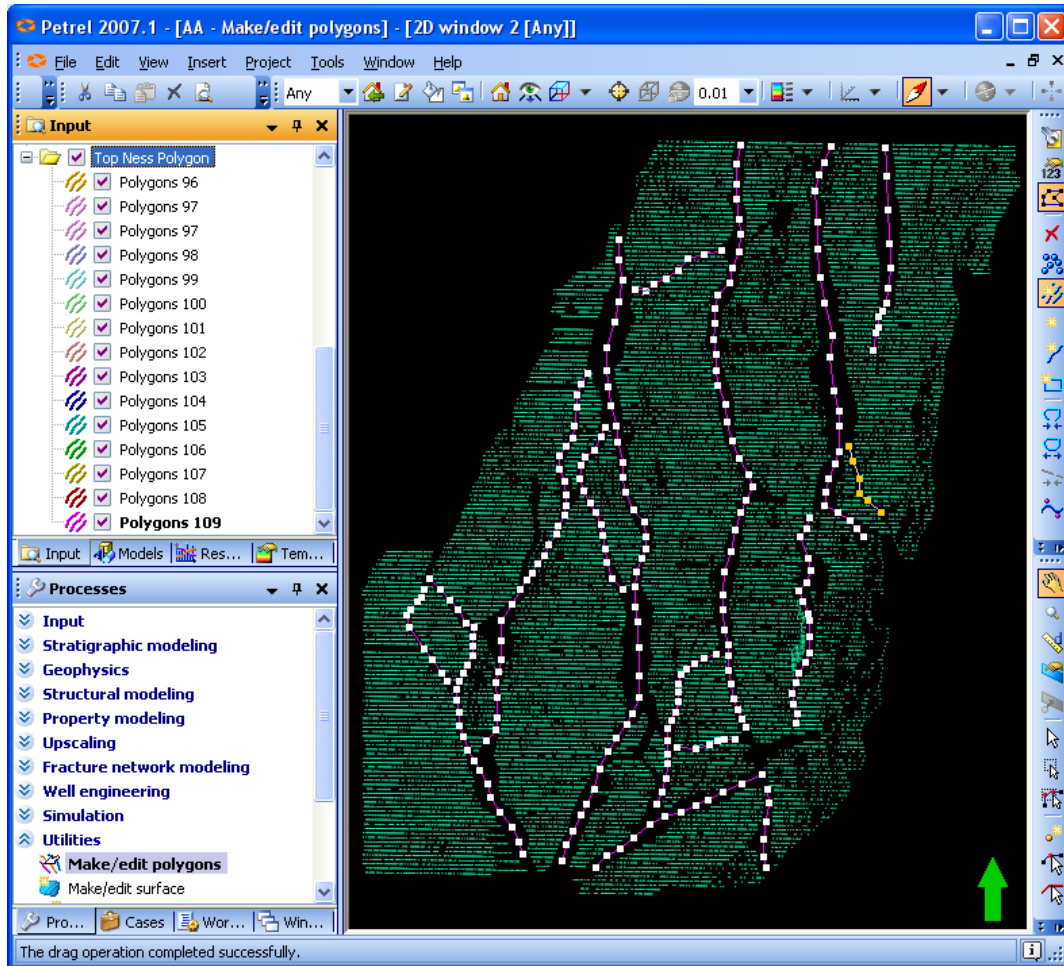
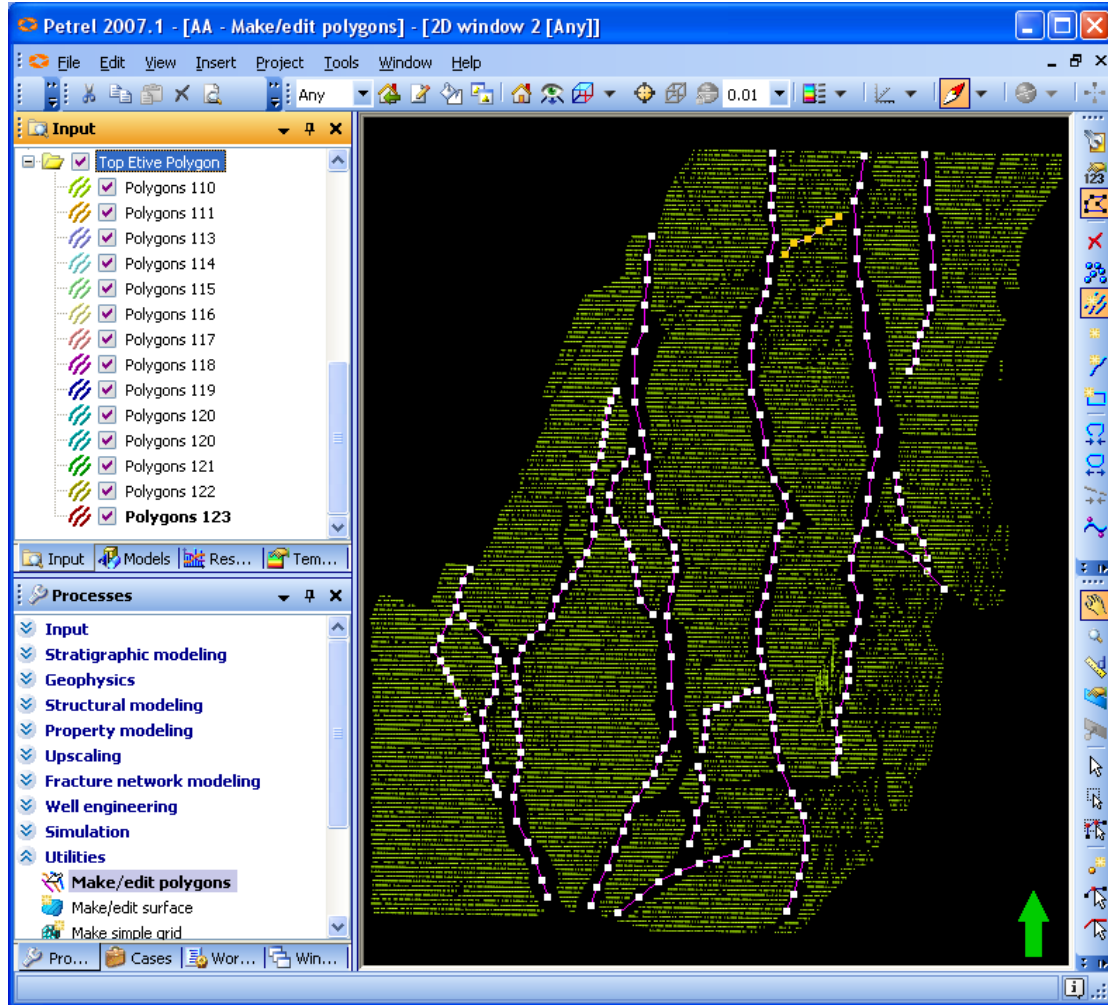

Fig.9.23: Top Ness fault surface
Fig.9.24: Top Etive fault surface
5. Repeat the same process for **Top Ness** and **Top Etive** surfaces. And make sure that you will create two folders and rename them, **Top Ness Polygons** and **Top Etive Polygons**. And place all fault polygons under each folder. As shown in Fig.9.23. and Fig.9.24.